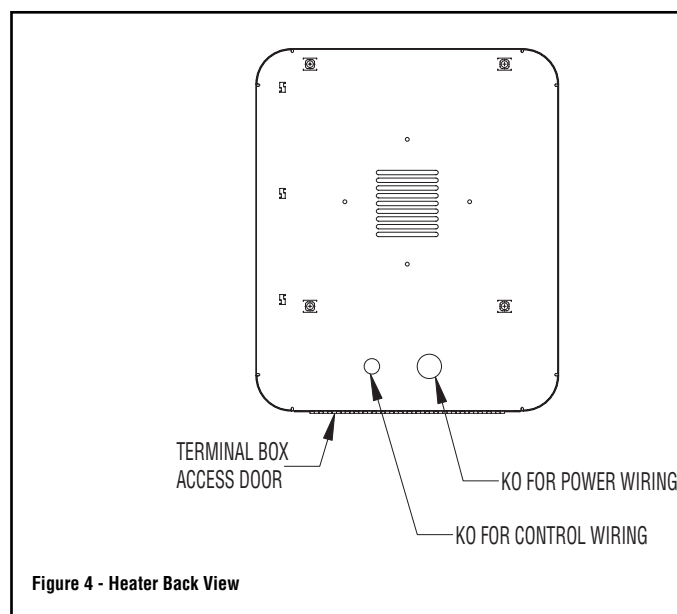

Figure 4 - Heater Back View
3. Two knockouts are provided on the back of the heater for wire entry. See Figure 4 for location of knockouts.